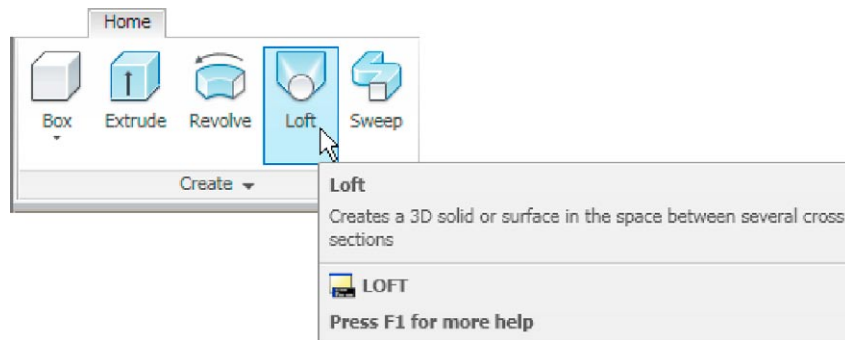

Fig. 12.40 Selecting the **Loft** tool from the **Home/Create** panel
3. Call the **Loft** tool with a *click* on its tool icon in the **Home/Modeling** panel (Fig. 12.40).